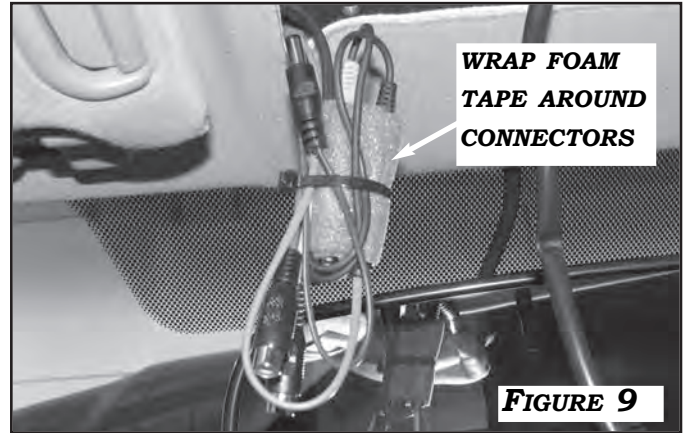

FIGURE 9
2. CONNECT MALE RCA VIDEO CONNECTOR OF CAMERA EXTENSION HARNESS TO VIDEO INPUT (Yellow Connector) OF THE MIRROR HARNESS. CONNECT MALE DC POWER CONNECTOR OF CAMERA EXTENSION HARNESS TO POWER OUTPUT (Red Connector) OF REARSIGHT MIRROR HARNESS. WRAP ALL RCA AND DC CONNECTORS WITH THE FOAM TAPE PROVIDED. FIGURE 9